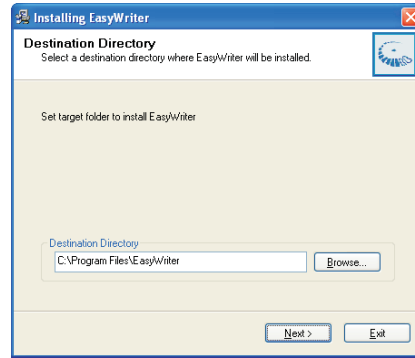

Fig. 4
- Step 4 : Double click the EasywriterV2.06a_user.exe icon to install the Application as Fig. 4.